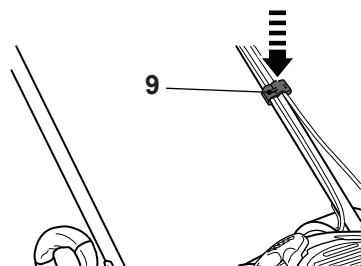

Fig. 5
8. Secure the wires (5, 6) with the wire clips (9) to the lower handle bar (7) (Fig. 5).